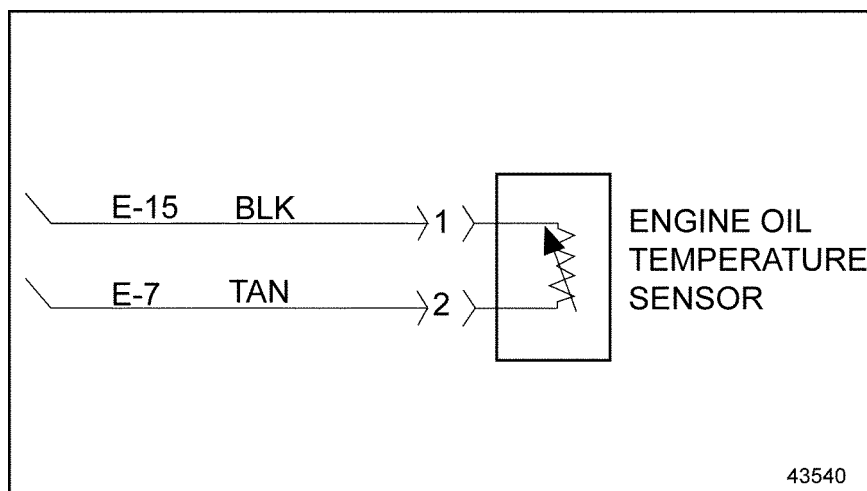

Figure 23-4 Engine Oil Temperature Sensor Circuits
2. Disconnect OTS/EOT Sensor and install a jumper between OTS/EOT Sensor connector sockets 1 and 2. See Figure 23-4.
5. Check terminals at the OTS/EOT Sensor connector (both sensor and harness side) for damage: bent, corroded and unseated pins or sockets. See Figure 23-4.